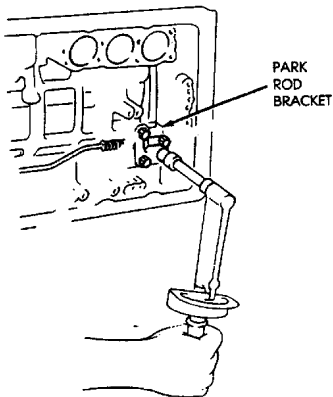
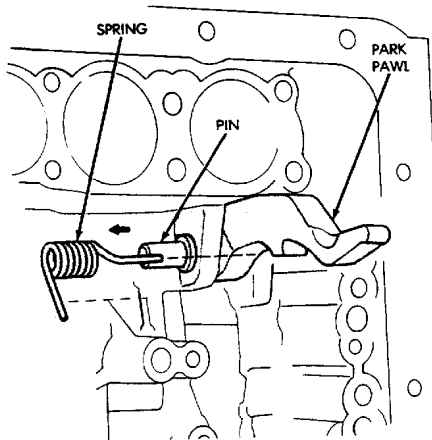

Fig. 36 Removing/Installing Park Rod Bracket
Fig. 38 Removing/Installing Park Pawl-Pin-Spring
(1) Remove valve body as outlined in this section.
(2) Remove bolts attaching park rod bracket to case (Fig. 36).
- (5) Remove park pawl, pin and spring (Fig. 38).
- (6) Examine park rod, pawl, pin and spring. Replace any component that is worn or damaged.
- (7) Install pawl in case. Insert pin and install spring.
- (8) Install park rod and bracket (Fig. 36). Tighten bracket bolts to 10 N·m (7 ft-lbs) torque.
- (9) Install valve body, oil screen and oil pan as outlined in this section.